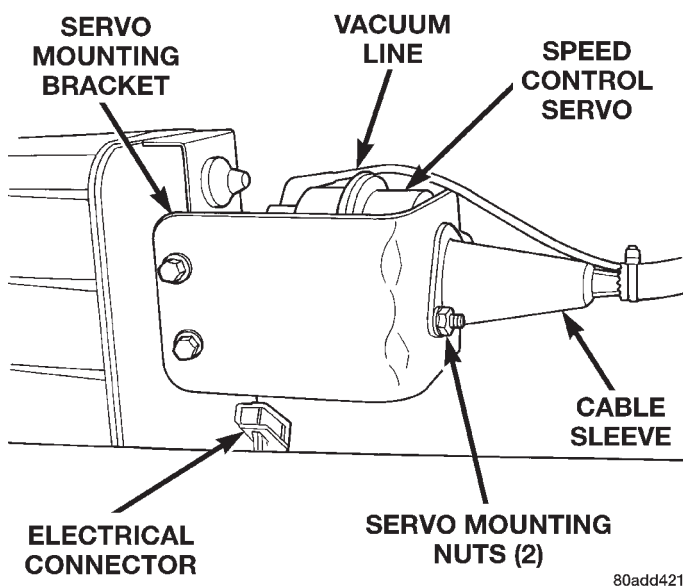
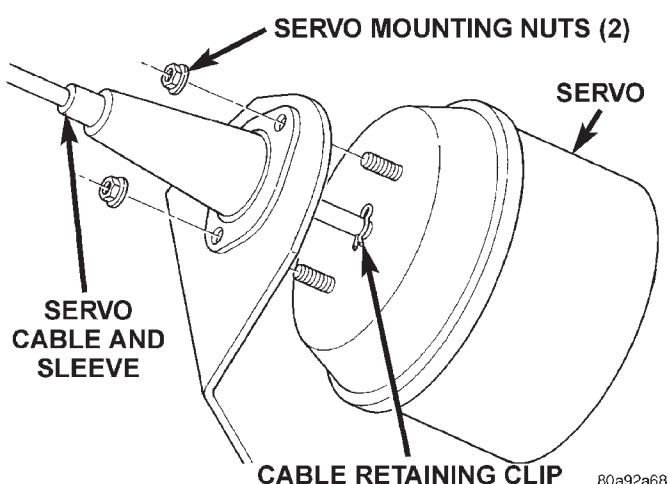

Fig. 2 Speed Control Servo Location
Fig. 3 Servo Cable Clip Remove/Install—Typical
- (1) Disconnect negative battery cable at battery.
- (2) Disconnect vacuum line at servo (Fig. 2).
- (3) Disconnect electrical connector at servo.
- (4) Disconnect servo cable at throttle body. Refer to Servo Cable Removal/Installation in this group.
- (5) Remove 2 mounting nuts holding servo cable sleeve to bracket (Fig. 2) or (Fig. 3).
- (6) Pull speed control cable sleeve and servo away from servo mounting bracket to expose cable retaining clip (Fig. 3) and remove clip. Note: The servo mounting bracket displayed in (Fig. 3) is a typical bracket and may/may not be applicable to this model vehicle.